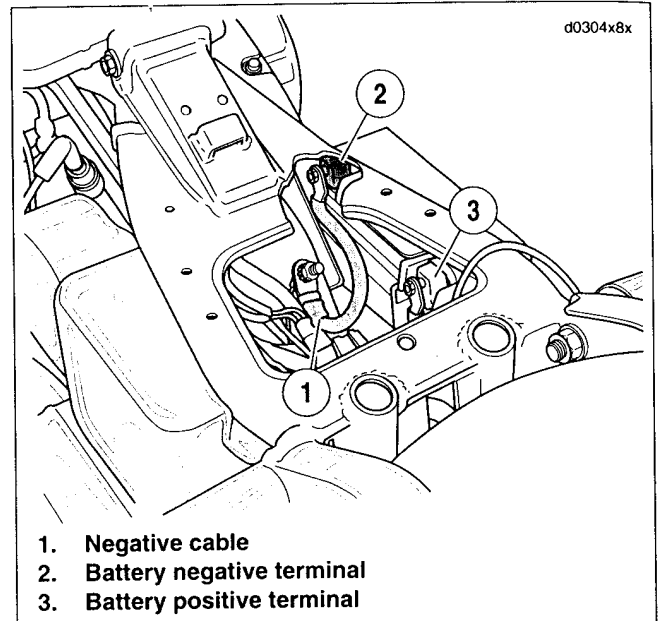

Figure 8-32. Battery Terminals
3. See Figure 8-32. Route positive cable down from battery positive terminal (3) to starter post on right side of chassis.
5. See Figure 8-32. Install negative cable.
- a. Route negative battery cable (1) towards rear of vehicle at same height as battery box top to frame.